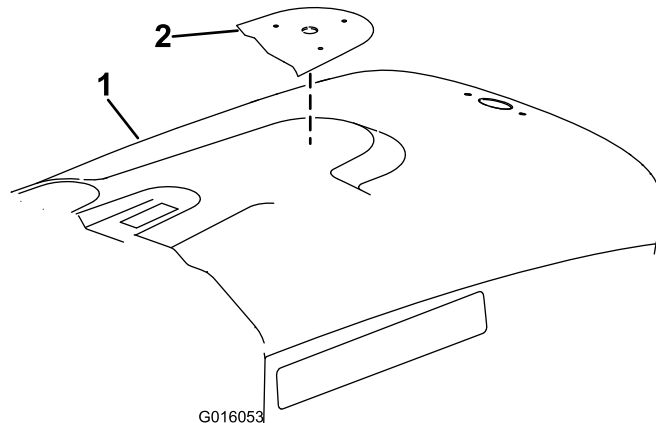
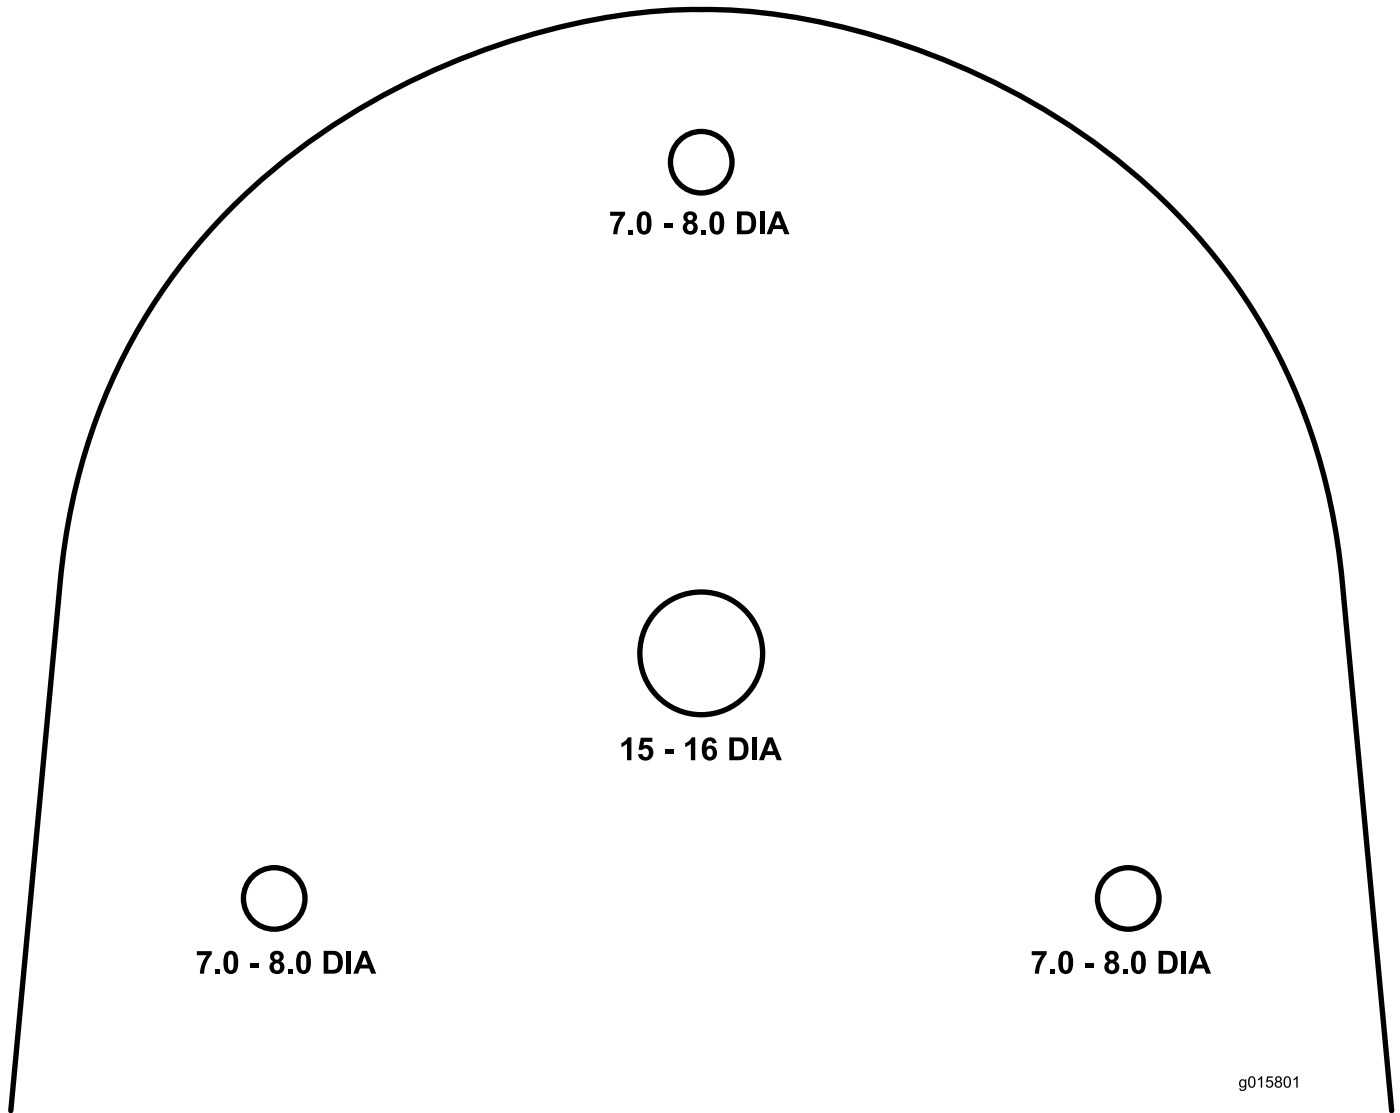

Figure 1
Figure 5
5. Align the hole template (Figure 5) on the engine cover and drill the holes shown (Figure 1).